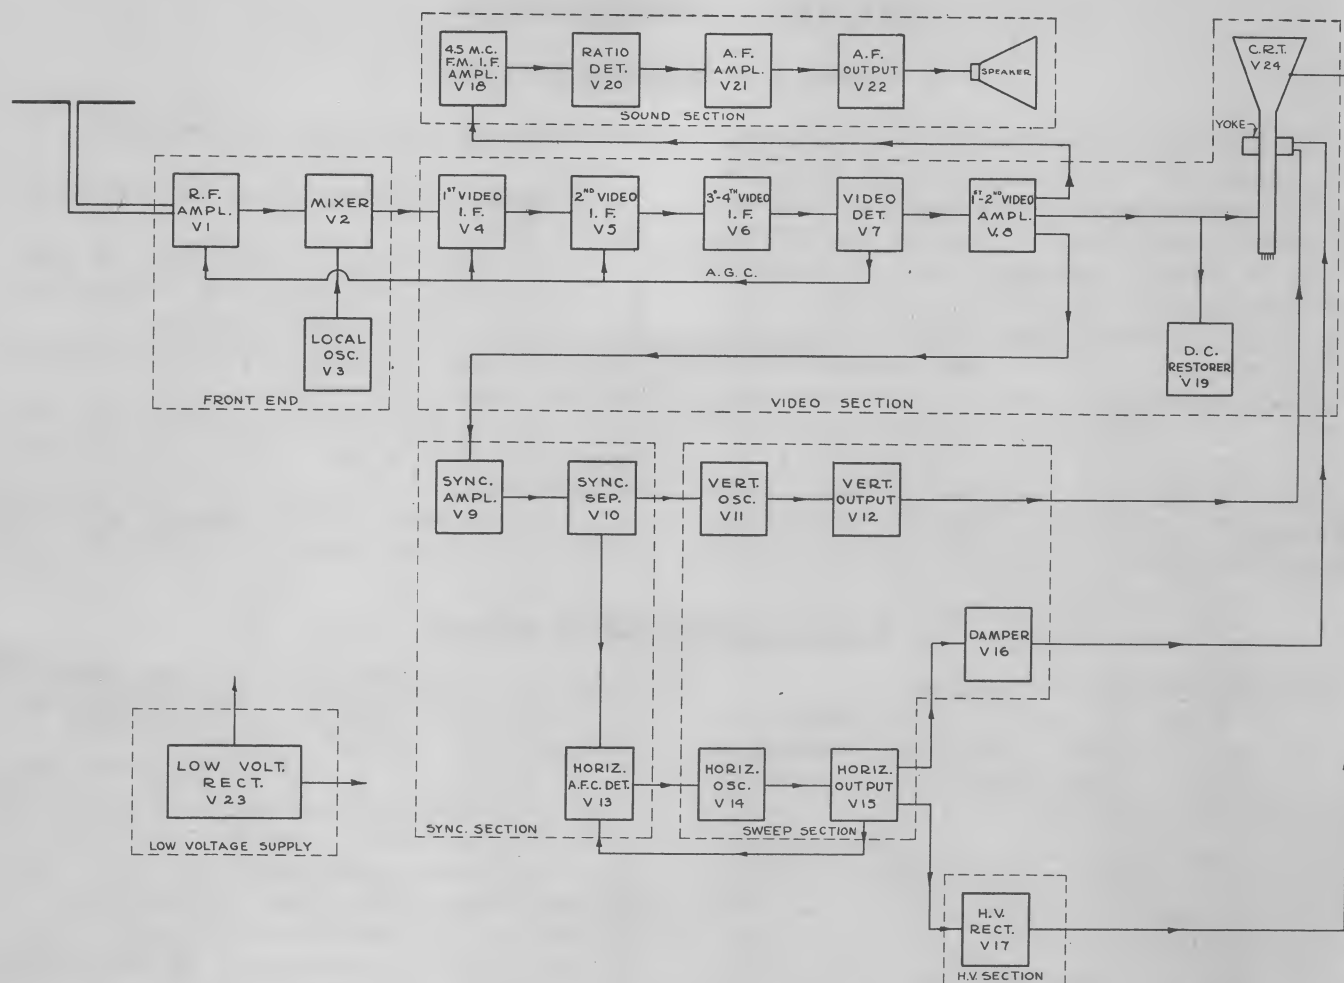

Fig. 1-1. TV receiver block diagram.
a. *Intercarrier Sound System.* Figure 1-1 is a block diagram of a TV receiver using the intercarrier sound system. There are two types of receivers in use today. The first, and one most universally manufactured receiver, is that using the intercarrier sound system. In this type of receiver, the sound i-f (always 4.5 mc) is taken from the second detector or video amplifier and is then fed to the f-m i-f amplifier.
c. *Sections of TV Receiver.* The dotted lines in Fig. 1-1 enclose seven separate major sections of the TV receiver. Each of these sections makes a unique contribution to the picture and sound of TV reception. These sections have been designated as (1) front end; (2) video section; (3) sound section; (4) sweep section; (5) sync section; (6) high-voltage section; and (7) low-voltage section.
a. *Front-End Tuner.* The function of the front end is to select the channel to be viewed and to amplify and convert the channel sound and picture carrier frequencies to lower frequencies; that is, the intermediate frequencies (i-f). As may be seen from Fig. 1-1, the front end consists of the r-f amplifier, the local oscillator, and the mixer.
*b. Video Section.* The function of the video section is to detect and amplify the video i-f signals. The resultant video signal is amplified and made to intensity-modulate the electron beam of the CRT. As may be seen from Fig. 1-1, the video section consists of the video i-f amplifiers, video detector, video amplifier, agc, and CRT. In the intercarrier system, both video and sound i-f's are amplified by common i-f amplifiers (V4, V5, and V6). Most receivers use three or four cascaded i-f amplifiers which build up the signal before detection or demodulation takes place in the second detector V7.
*In operation* (see Fig. 1-1), the 4.5-mc f-m sound signal is separated from the video signal at the output of the video amplifier, V8, and is fed to V18, the f-m i-f amplifier. This tube is sometimes referred to as the *driver*. Its amplified output goes to the f-m detector, V20, which is usually a ratio detector. The demodulated audio signal from V20 is amplified by V21, the a-f voltage amplifier; then by V22, the a-f power amplifier. This audio signal now activates the speaker and sound is reproduced.
b. *Video Section.* Refer to Fig. 1-1. It is evident that the video section from the first video i-f amplifier through the video detector is common to both picture and sound circuits. Hence, troubles in these common circuits will affect both picture and sound. Beyond the sound take-off point, however, the sound and picture signals take different paths. The following typical symptoms may be attributed to troubles in this section: